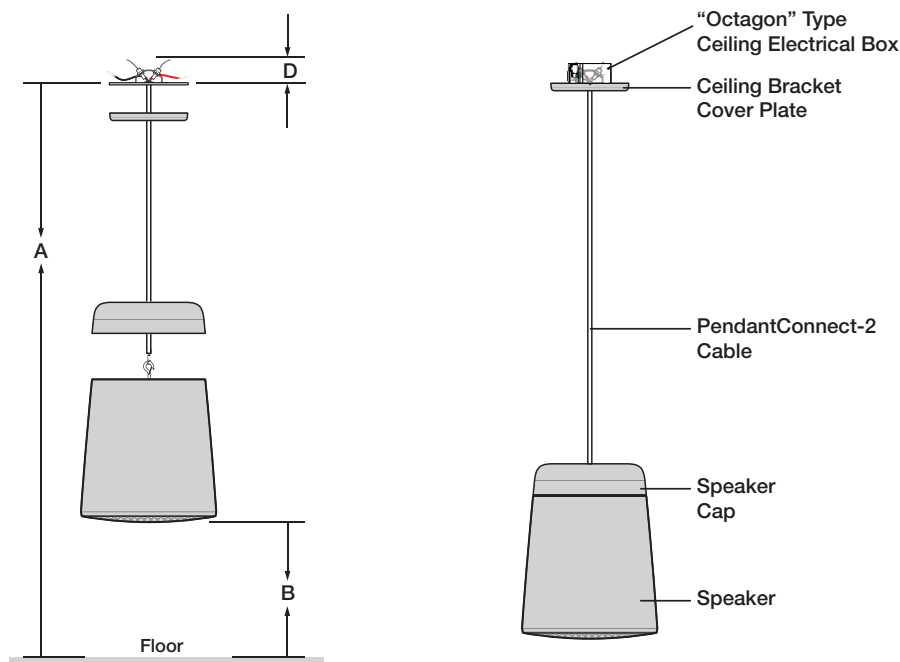

Figure 14. Dimensions and Order of Assembly
1. Determine the total length (**T**) of cable needed (see figure 14 on page 12).
4. Strip off the cable at the strip point using value **D** in the previous step (see figure 14, above) showing the dimensions of the SF 28PT.